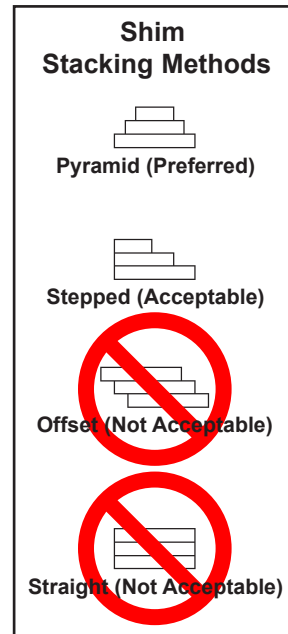

Figure 13
18. Install shims at locations (**B and E**) using the pyramid or stepped shimming method (see Figure 13). Both platform cylinder trunnions must be solidly shimmed the entire length of the trunnion. Make sure the trunnions are level from side-to-side as well as from front-to-back.